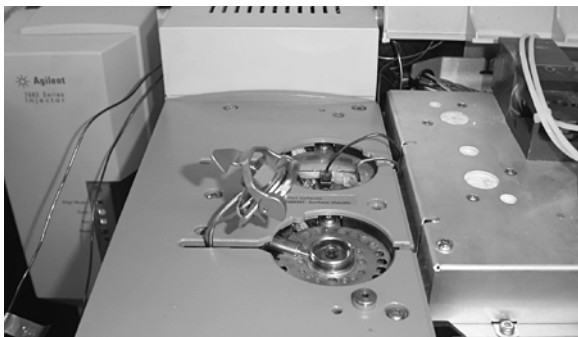

Figure 4 Positioning the lever arm assembly
- 7** Place the FlipTop's lever arm assembly onto the inlet gas weldment as shown in Figure 4. Make sure the spacer ring is pointing downwards.